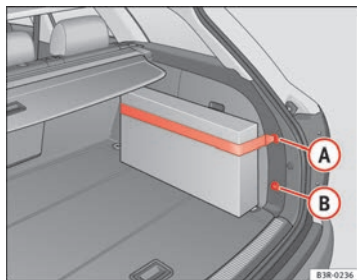

Fig. 119 Retaining strap attached to right-hand side lining
- Hook the retaining strap into housing (A) or (B) ⇒ fig. 119.